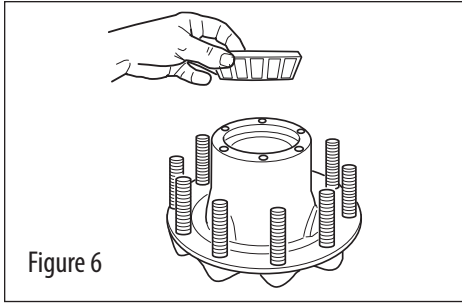

Figure 6
7. Lubricate the outer bearing cone with the same lubricant as will be used in the hub and install it into the hub assembly (see Figure 6).